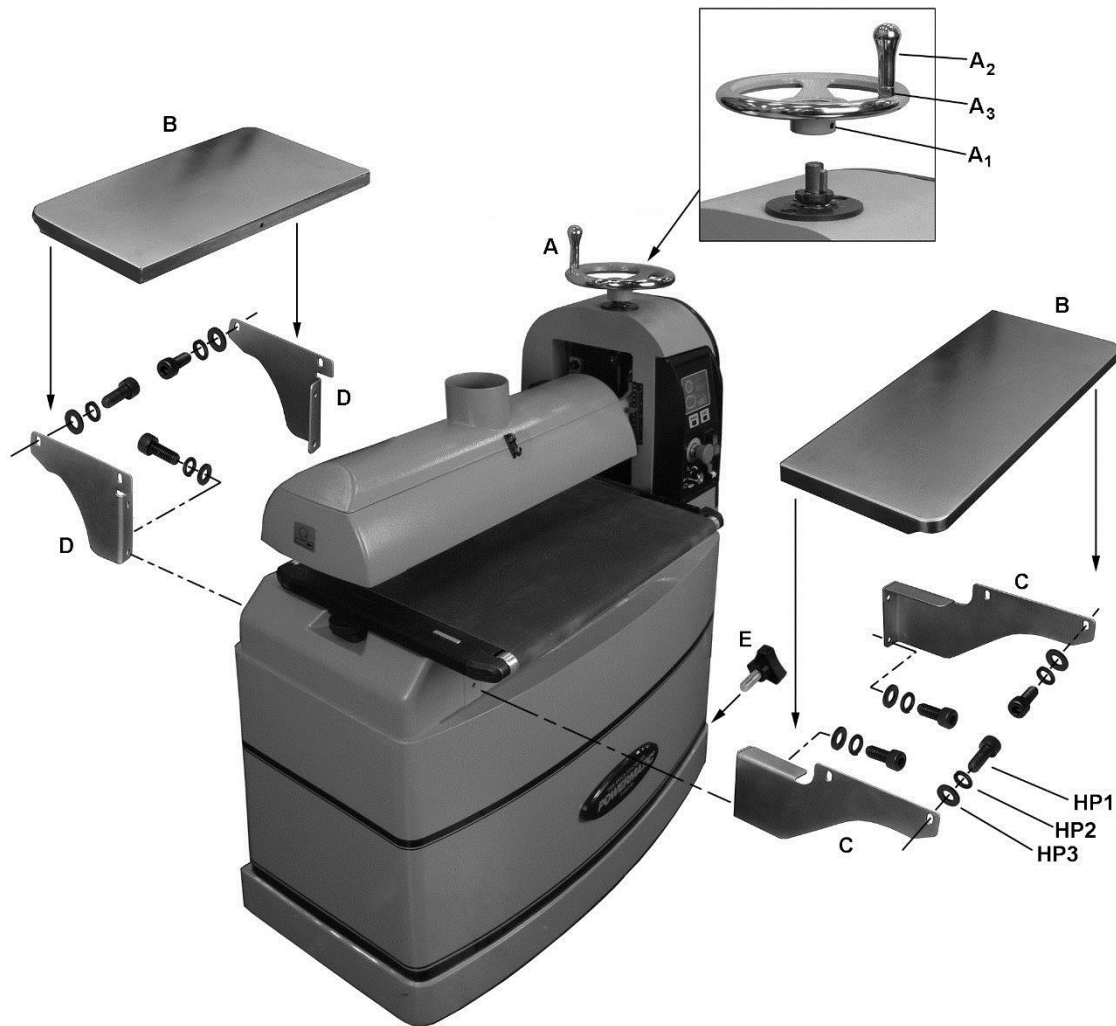
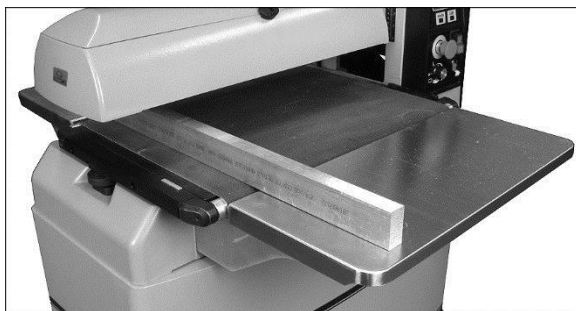

Figure 2
Figure 3
See Figure 2.
1. Back off set screw (A₁, Figure 2), and push handwheel (A, Figure 2) down onto shaft as far as it will go. Make sure set screw faces key on shaft. Tighten set screw with 4mm hex wrench.
1. Attach table brackets (C,D, Figure 2) to sander base with M8 screws and washers (HP1,HP2,HP3). Tighten screws with 6mm hex wrench.
NOTE: Longer brackets (C) mount to infeed side, shorter brackets (D) to outfeed side. Each bracket has left and right version. See Figure 2 for proper orientation.
2. Place extension tables (B) onto table brackets (C) and insert screws and washers (HP1,HP2,HP3). Note: Leave screws loose for now.
3. Place a straight edge across conveyor bed and extension table. See Figure 3.
Screw the caster lock knobs (E, Figure 2) into the threaded holes on the side of the cabinet.